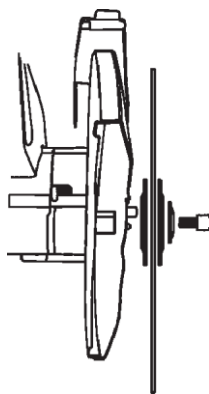

Fig 11
5. Remove the arbor cap screw, the small outer washer, the large outer washer, the cut-off wheel and large inner washer from the arbor. (Fig 11)